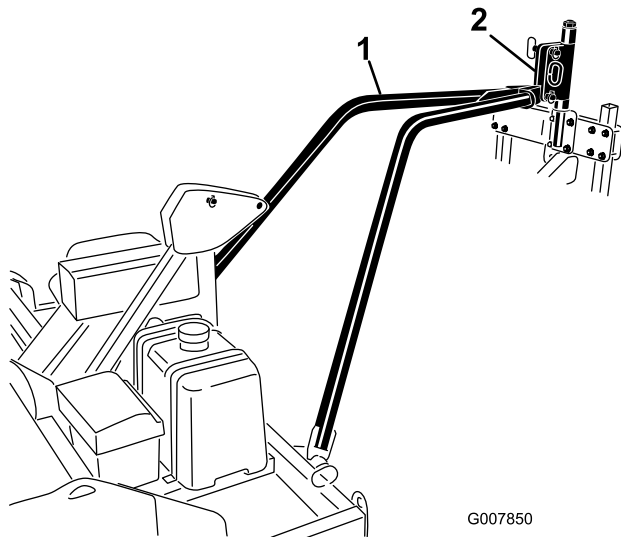

Figure 13
4. Remove the tie down or rope and lower the tow arm hitch plate into the aerator hitch pivot (Figure 13).